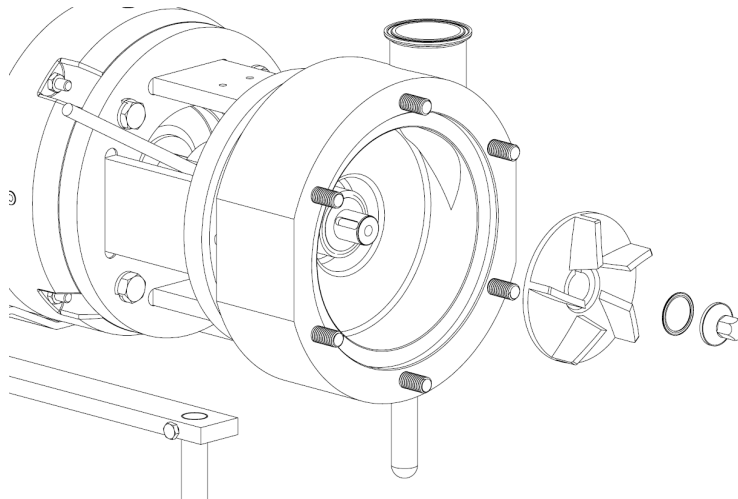

Figure 3
5. Remove the rotor nut, the rotor nut gasket, rotor, then the key as shown in Figure 3. The seal driver may be pushing against the key. With one hand push the seal driver into the casing with index and middle finger on opposite sides of the shaft. Then with your free hand remove the key.